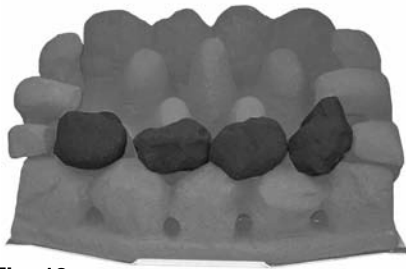

Fig. 18
5. Pick out the smallest two coals and lay to one side, lay the first row of four loose coals on top of the front coal. Ensure the back of the coals are resting on the coal bed and there are even gaps all round (Fig. 18).